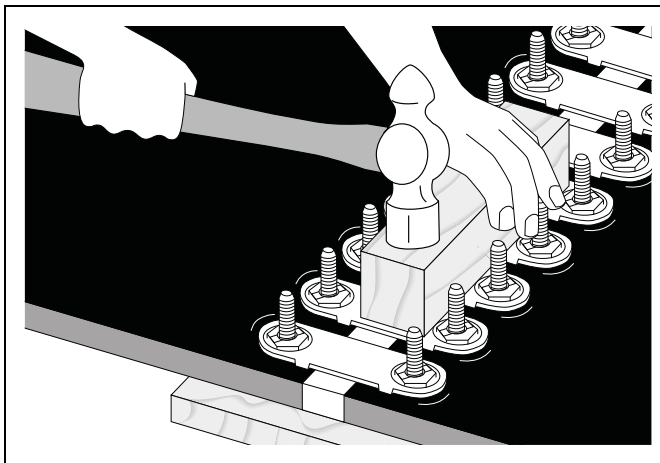

Figure 6Q
11. Hammer plates in belt with wood block. Retighten nuts. (See Figure 6Q.)